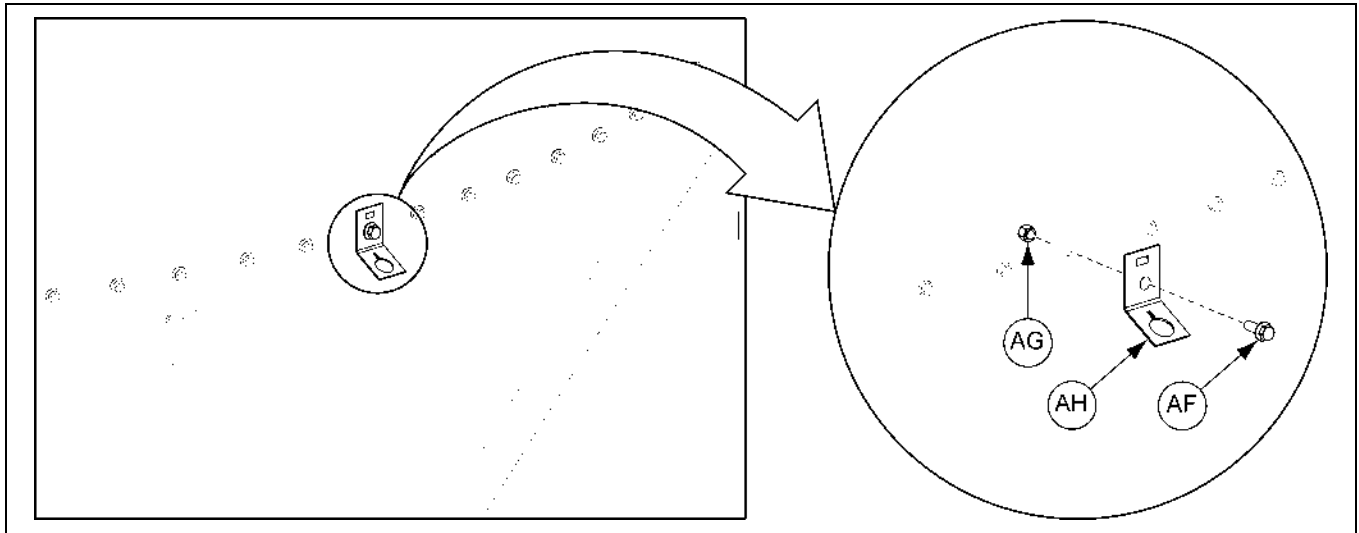

Figure 10K Installing the Chain Holder Bracket
1. Determine where you want the ground control to be located and install the chain holder bracket (AH) using an existing hardware (AF and AG) in the seam where the hopper panel meets the sidewall. *(See Figure 10K.)*